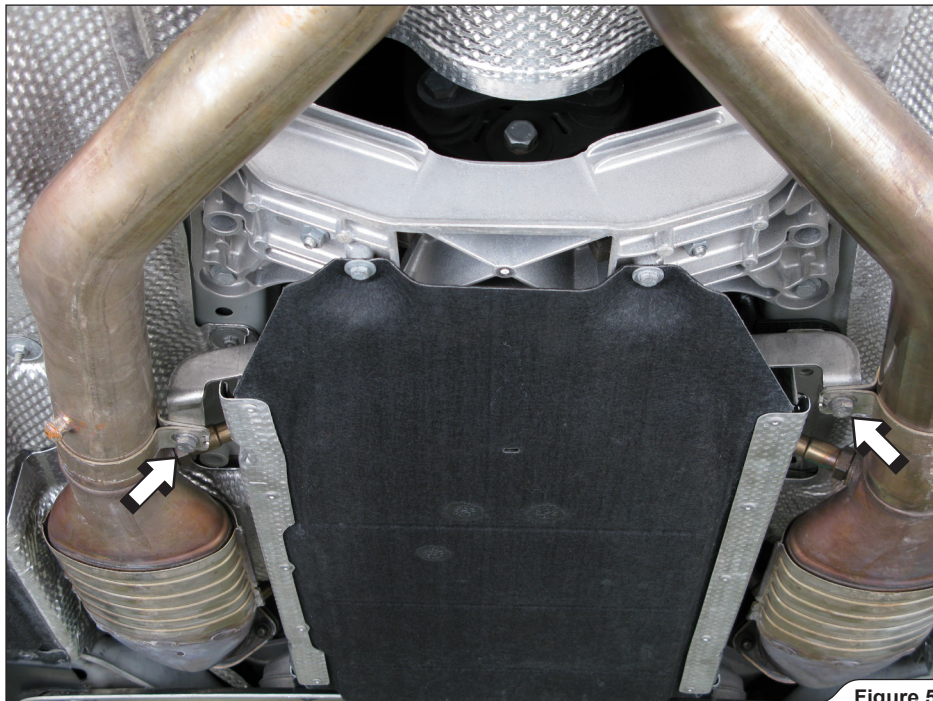

Figure 5
5. Unscrew the marked middle pipes brackets (**Figure 5**).